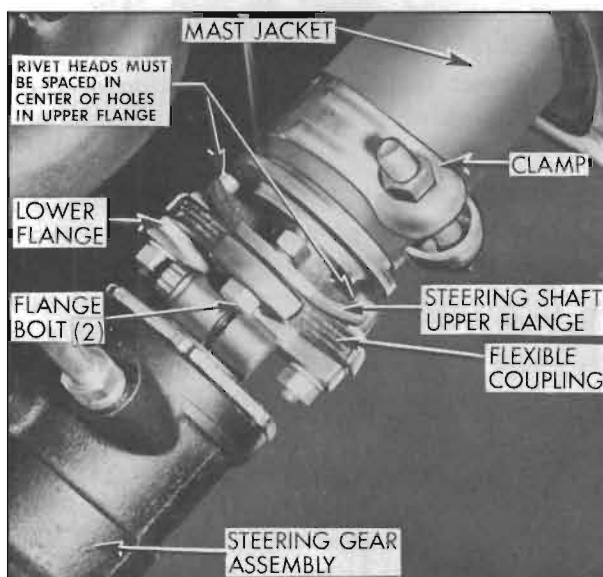

Figure 8-22—Power Steering Gear Coupling
3. Disconnect the two upper-to-lower flange bolts. See Figure 8-22.